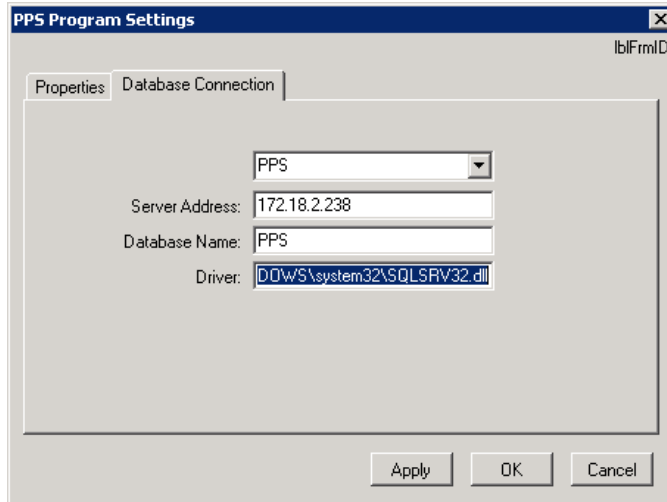

Figure 119. PPS Program Settings: Database Connection.
2. Select the **Database Connection** tab (see Figure 119).